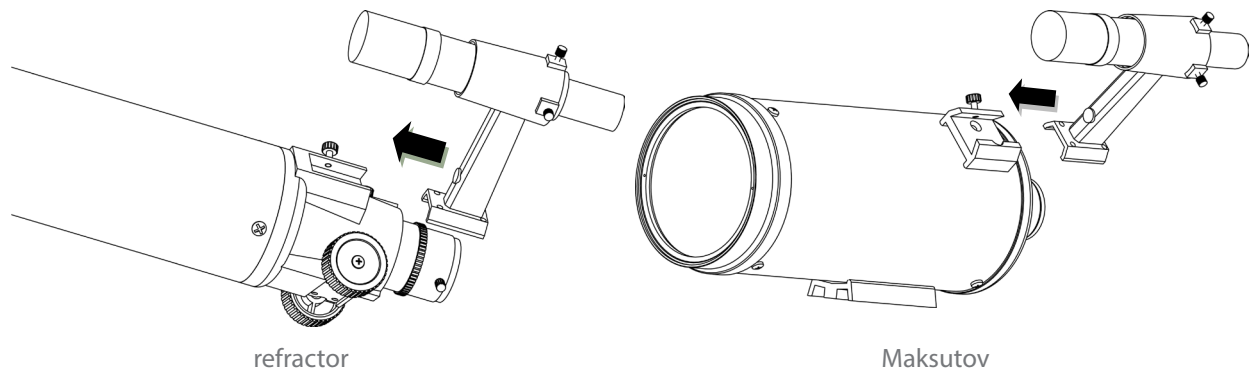

Fig.4.1.1a
1. Attaching the finderscope bracket(Fig.4.1.1a)